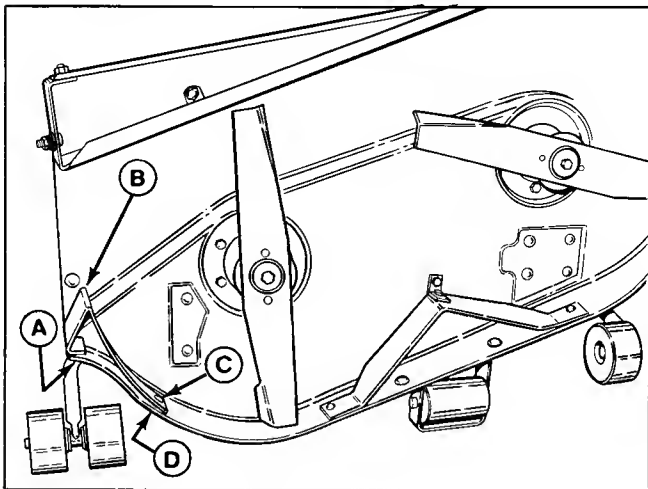

Figure 2.
3. Install the baffle (B, figure 2) as shown. Screw the 1/4" whizlock screw (A) into retainer nut in baffle. Insert 1/4" carriage bolt (C) from inside deck and install lockwasher and nut (D).